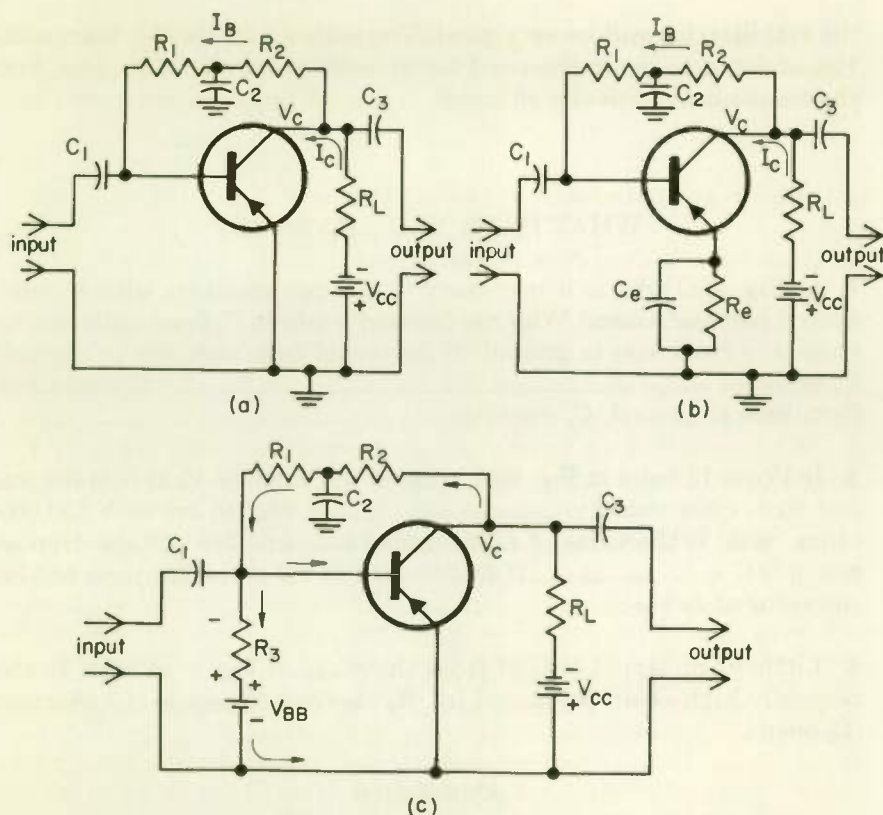

Fig. 9 Variations in stabilization circuitry.
7 **VOLTAGE FEEDBACK STABILIZATION** . . . Another basic stabilization method, that of voltage feedback, is shown in Fig. 9(a). The base bias current is provided by feedback from the collector through R_1 and R_2 . When the collector current increases because of the transistor warming up, the voltage drop across R_L , through which I_C must flow, increases. This will cause the collector voltage V_C to decrease, and consequently I_B to also decrease. The lowering of I_B reduces I_C , so that variations in I_C due to temperature changes are not as pronounced as they would be if I_B were obtained directly from V_{CC} .
The circuit of Fig. 9(a) gives rather poor temperature stabilization. One improvement is to use a combination of voltage and current stabilization as shown in Fig. 9(b). Another method is that of Fig. 9(c), where R_3 and V_{BB} are added to the basic voltage stabilization circuit of (a). Notice that V_{BB} is connected to the base-emitter junction in reverse bias. The voltage V_C in series with V_{BB} gives the current through R_2 , R_1 , and R_3 shown by the heavy arrows. The voltage drop across R_3 caused by this current flow must be slightly greater than V_{BB} in order to overcome the reverse bias of V_{BB} ; otherwise, I_B would be zero.
- In Fig. 9(a) why is it necessary to use two resistors with C_2 connected between them? Why not instead connect C_2 from collector to ground or from base to ground? If connected from collector to ground, C_2 would (a) _____ . If connected from base to ground, C_2 would (b) _____ .
- If V_{CC} is 12 volts in Fig. 9(a), what is the value of V_C if I_C is 0.8 ma and R_L is 5000 ohms? (a) _____ If R_1 and R_2 are each 250,000 ohms, what is the value of I_B , assuming base-emitter voltage drop as negligible? (b) _____ If I_C increases to 1.2 ma, what then will be the value of I_B ? (c) _____
- Little or no signal output from the stage of Fig. 9(a) with I_C abnormally high could be caused by (R_1 shorted) (R_2 open) (C_2 shorted) (C_2 open).